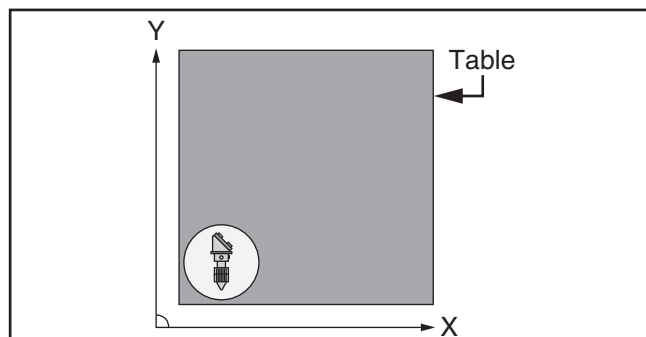

Figure 100. Laser head assembly in lower left corner of table.
19. Move laser head assembly to lower left corner of table (see **Figure 100**).